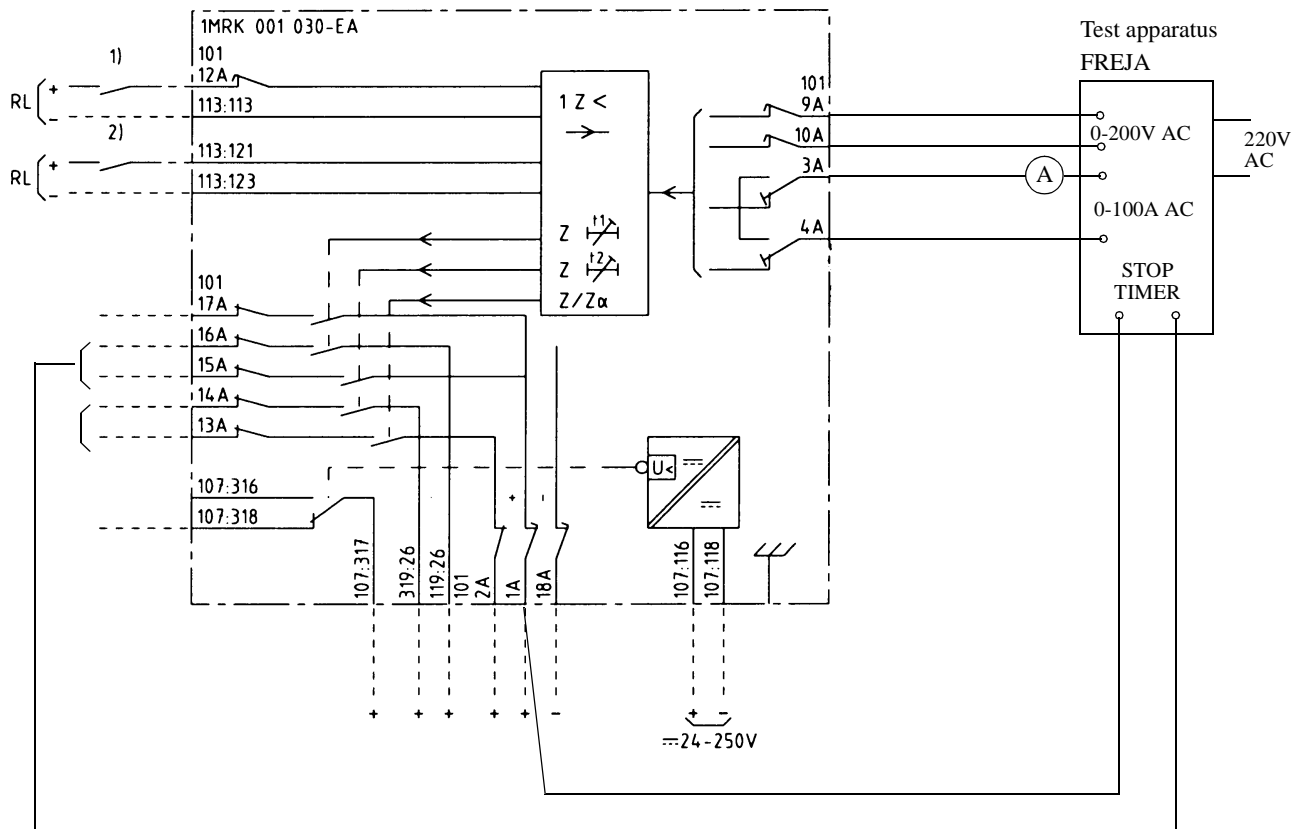

Fig. 39 Connection of test apparatus for testing of phase L1
**1. Connections:** Connect the test set according to figure 39 to test the relay functions for phase L1 and insert the test-plug into the test switch